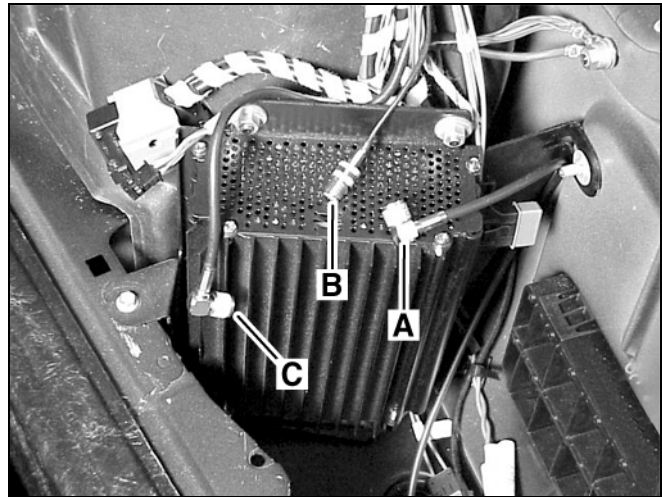

Figure 6
- coaxial cable from the front center console (C, Figure 6)
- integrated bumper antenna cable (A, Figure 6)
1. Disconnect the Tele Aid antenna cable (B, Figure 6) from the integrated bumper antenna cable (A, Figure 6) located in the right area of the trunk (Figure 6).
2. Place the completed bracket assembly near the point of installation and connect the integrated bumper antenna cable (A, Figure 6) to the antenna switch jack labeled "ANTENNA."
10. Connect the coaxial cable coming from the center console (C, Figure 6) to the linear compensator jack labeled "PORTABLE."